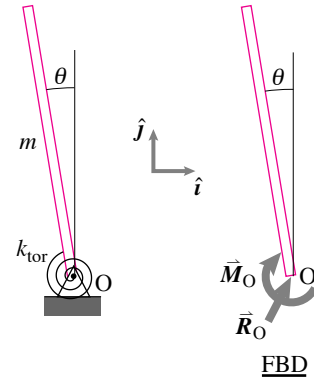

Figure 16.77
3. If the two linear springs are to be replaced by a torsional spring at the bottom, we can find the spring constant of the torsional spring by comparison. Let k_{tor} be the spring constant of the torsional spring. Then, as shown in the free-body diagram (see figure 16.77), the restoring torque applied by the spring at an angular displacement θ is $k_{\text{tor}}\theta$. Now, writing the angular momentum balance about point O, we get